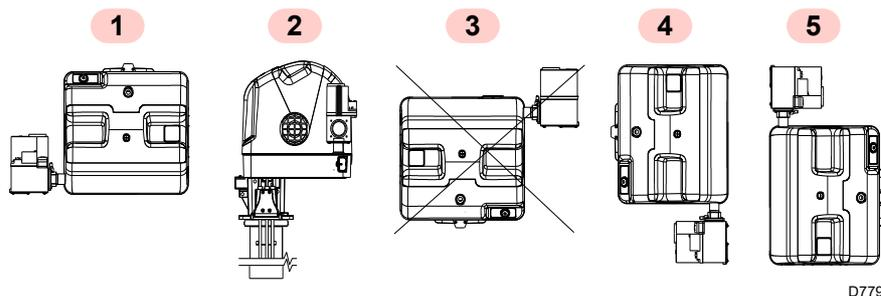

Fig. 11
- The burner is designed to operate only in positions **1, 2, 4** and **5** (Fig. 11).
- All the positions require the installation of the gas valve with coils facing upwards or horizontally (Fig. 11).